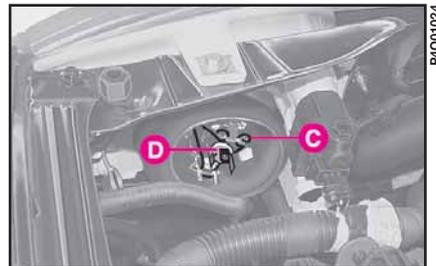

fig. 13
- 2) release the fastening clip **C**-fig. 13 and remove the bulb **D**;